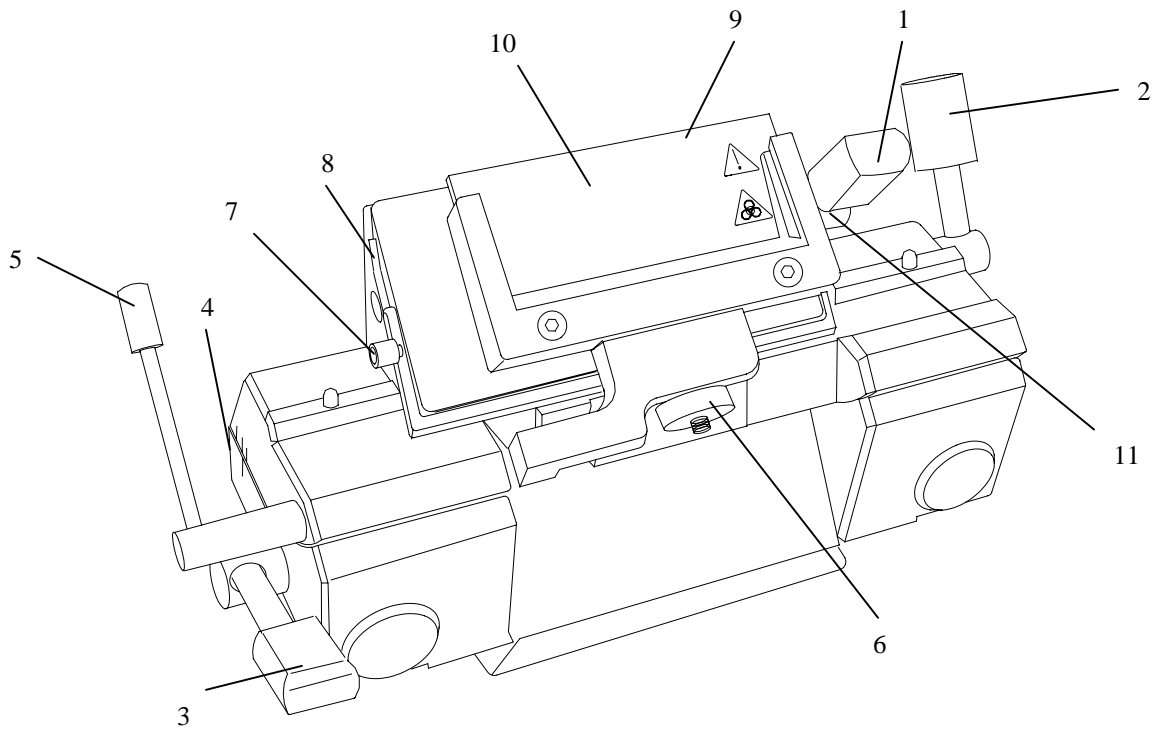

Fig. 24a
- The blade is inserted into the slot (fig. 24a.9) behind the clamping plate.
When using high profile blades, first loosen the lever (fig. 24a.1) and remove the spacer strip (fig. 24a.8).
- For this, push in the stop bolt (fig. 24a.11) and turn the clamping lever (fig. 24a.1) in a counter clockwise direction over the stop bolt.
- Remove the clamping lever (fig. 24a.1) together with the eccentric bolt.
- Fix the clamping plate with clamping lever (fig. 24a.1) again in the blade carrier in reverse order.
- To insert the blade, now loosen the clamping lever (fig. 24a.1).
- Insert the blade from the left side into the slot behind the clamping plate (fig. 24a.9) as far as possible.
- To section the specimen, put the anti-roll plate (fig. 24a.10) against the blade via the turning lever (fig. 24a.5) in a counter-clockwise direction.
- Tighten the clamping lever (fig. 24a.1). Thus fixing the blade in its position.
- Open the clamping lever for the upper part of the carrier (fig. 24a.2) and move the blade together with the upper part to the left or right side.
- Tighten the clamping levers (fig. 24a.2) to fix this position.
To avoid the danger of injury on the blade during adjustment of specimen, always position the knife guards (fig. 24a.7) over the blade edge.
- The fine adjustment of the anti-roll plate is carried out via the knurled screw (fig. 24a.6).
- Loosen the clamping lever (fig. 24a.3).
- The clearance angle can be read on the scale (fig. 24a.4) on the left side on the base.
- Bring the clamping lever (fig. 24a.3) into clamping position.